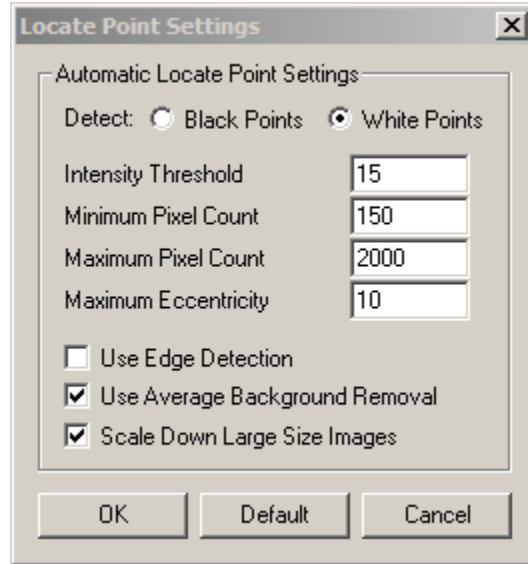

Figure 5. Locate Point Settings dialog box
*Note: You can right-click on either of the calibration images and select one of the **Locate Point Settings (TOP)** or **(BOTTOM)** options from the pop-up menu. The Locate Point Settings dialog box appears as shown in Figure 5. Changes in lighting, resolution, field of view, and other factors alter the appearance of the fixture. A number of parameters may be adjusted in order to compensate for these changes. The Locate Point settings control how the image is processed and how the points are identified from the processed image. For more information on this feature, refer to the 3-D Calibration section of the ProAnalyst User Guide. For this tutorial, you may leave the settings at their default values and click **OK**.*